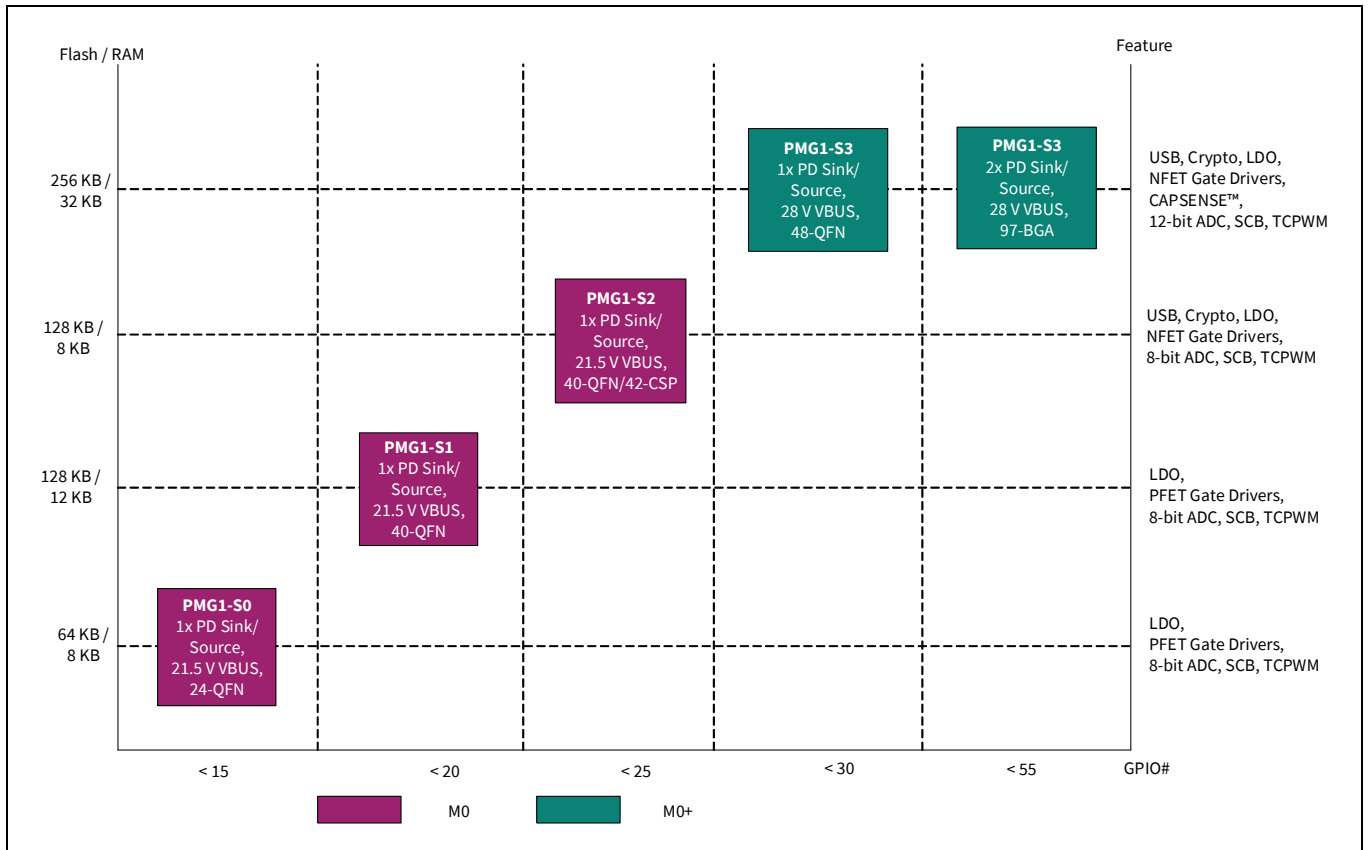

Figure 1 PMG1 family segmentation
EZ-PD™ PMG1 (Power delivery MCU Gen1) is a family of high-voltage USB-C power delivery (PD) microcontrollers (MCU). These chips include an Arm® Cortex®-M0/M0+ CPU and USB-C PD controller along with analog and digital peripherals. EZ-PD™ PMG1 is targeted for any embedded system that provides/consumes power to/from a high-voltage USB-C PD port and leverages the microcontroller to provide additional control capability. **Figure 1** shows the EZ-PD™ PMG1 family segmentation.